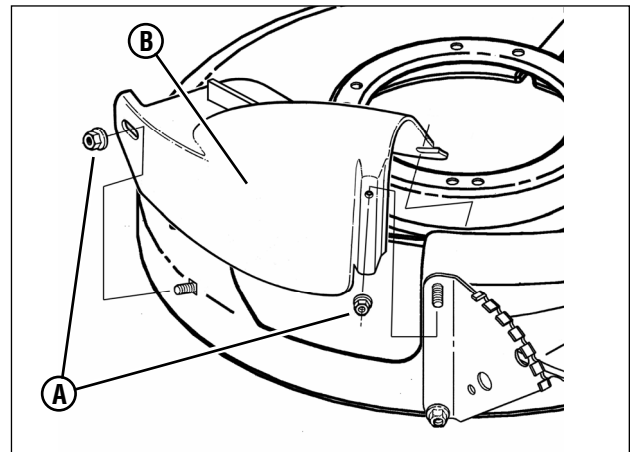

Figure 9: Removing the recycling cover
1. Remove the nuts (**A, Figure 9**) securing the recycling cover (**B**) to the mower deck.